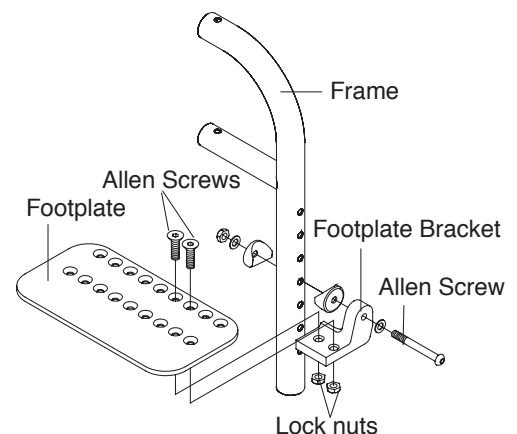

Figure 12
1. Remove the two Allen Screws and locknuts that secure the footplate to the angle adjustable footrest bracket. See Figure 12.
1. Remove the two Allen Screws and locknuts that secure the footplate to the footplate clamp. See Figure 12.